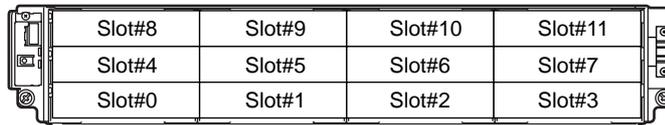

Figure 5.1 Position of 3.5" disk slots
3.5" disks can be installed in the front of the controller enclosure or drive enclosure, as shown in Figure 5.1.